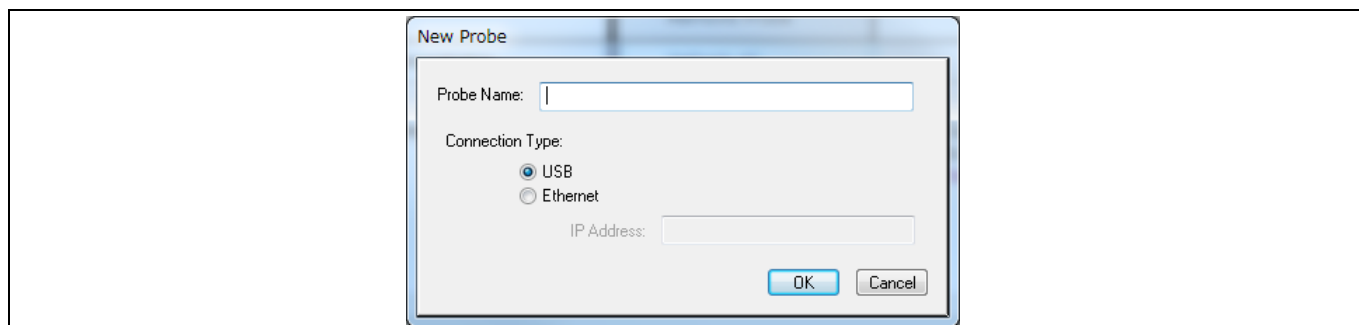

Figure 8 New probe setup
4. Enter any name (such as stp_trace01) in the **Probe Name** field and select connection type **USB**. Then click **OK**, as shown in **Figure 8**.